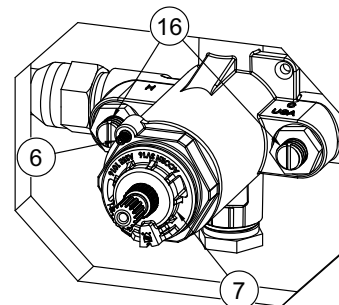

FIGURE 7
12. Thread valve **bonnet 7** into valve casting turning clock wise. Apply pressure on top of stem while screwing **valve bonnet 7** into place. This will keep cartridge from slipping out of slot while bonnet is threaded into place. Tighten **valve bonnet 7** onto valve body firmly (180 In-Lbs) Tighten **set screw 6** with 1/16" Allen wrench firmly (75 In Oz). This will prevent **valve bonnet 7** from coming loose during use. See **Figure 7**.